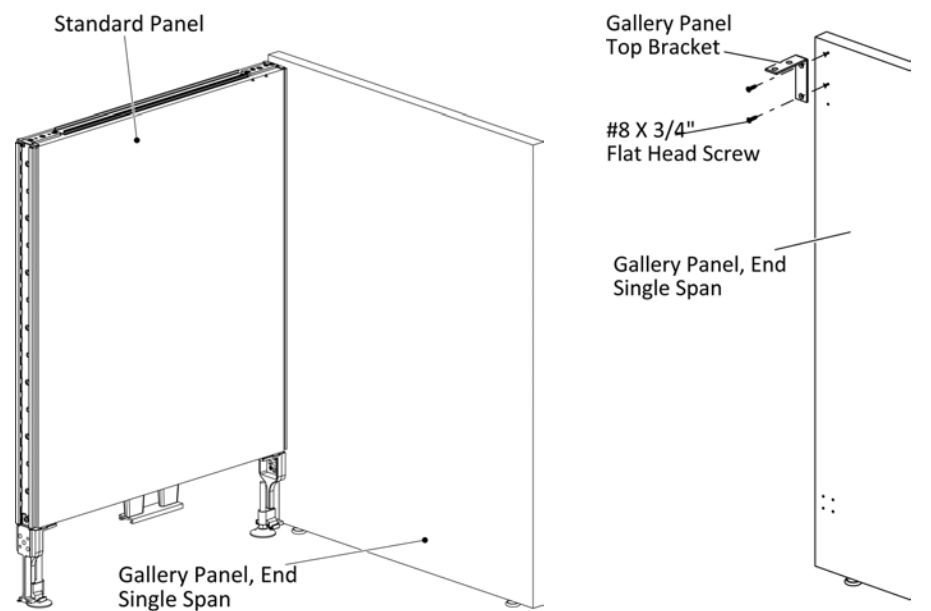

Figure 1
- 1. Insert the panel leg “U” cavity into the two slotted holes at the bottom of raceway cover, (Figure 1).
1. Position and align two holes in gallery panel top bracket to pre-drilled holes in gallery panel, (Figure 1).